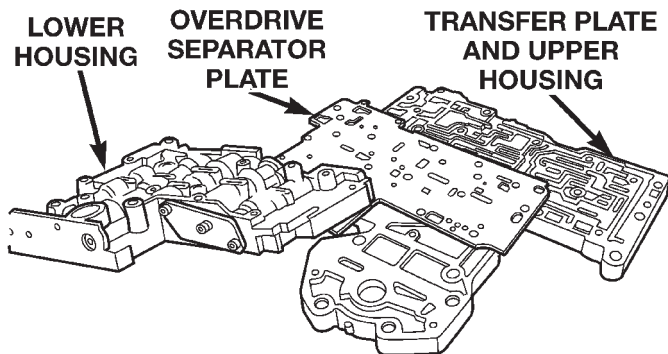

Fig. 67 Lower Housing
(28) Turn valve body over so lower housing is facing upward (Fig. 67). In this position, the two check balls in upper housing will remain in place and not fall out when lower housing and separator plate are removed.
(29) Remove screws attaching valve body lower housing to upper housing and transfer plate (Fig. 67). **Note position of boost valve tube brace for assembly reference.**
(30) Remove lower housing and overdrive separator plate from transfer plate (Fig. 67).